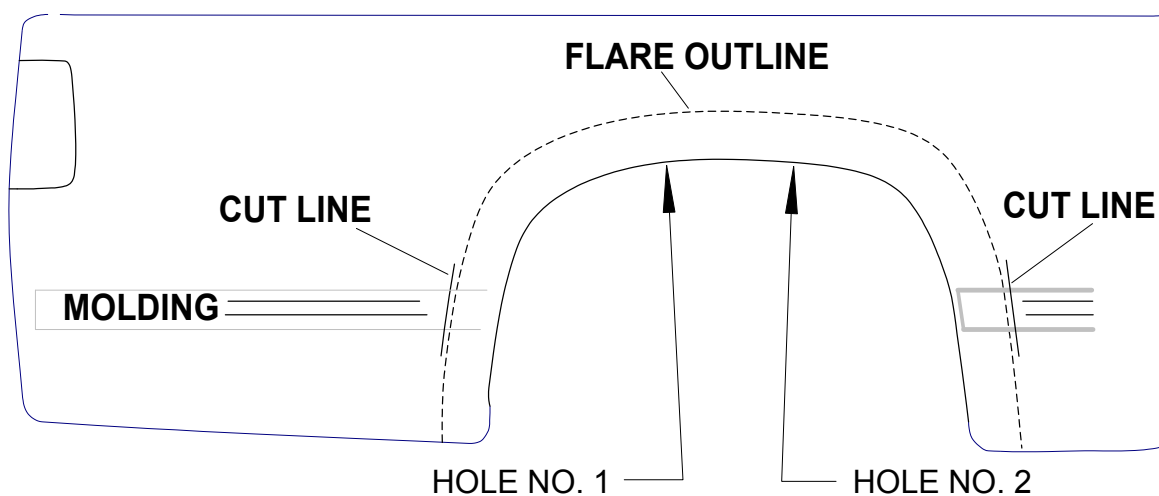

FIGURE 2
3. Trim flare along traced contour line. **See FIGURE 2**
- (A) Pre-drill all screw indentations in the flare with a 3/16" drill bit. **DO NOT DRILL SHEET METAL WITH 3/16" DRILL BIT.**
- (B) Attach edge trim to outside lip of flare.
- (C) Fasten the flare to the vehicle with drill screws using the holes in the flare as a guide. Follow the fastening sequence illustrated in FIGURE 2.